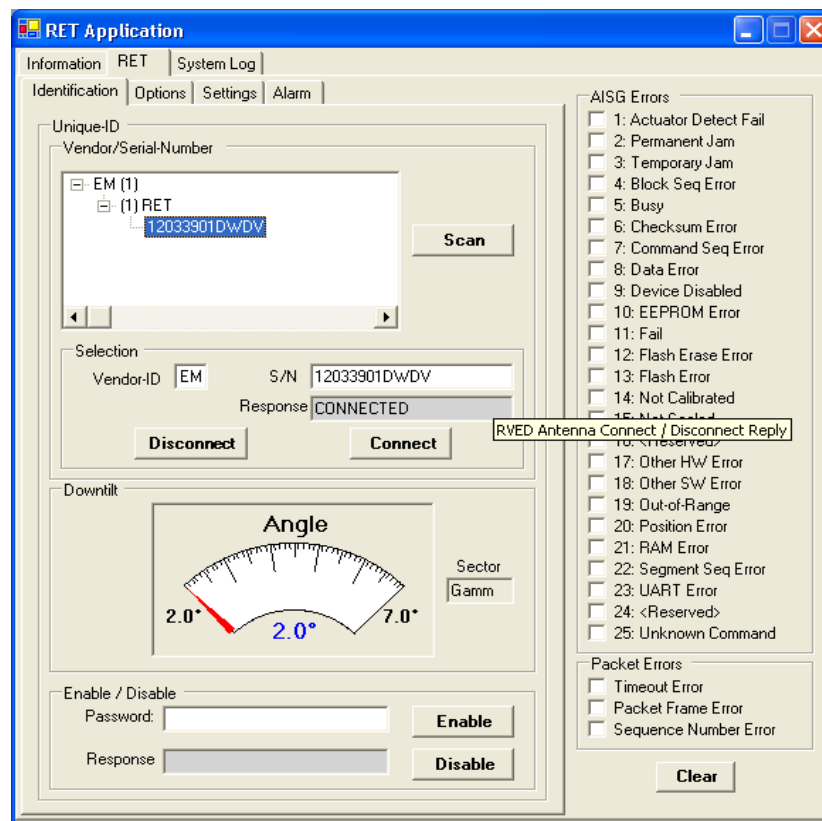

Figure 1. RET Device Scan Results.
9. Click on the **Scan** button (located under the RET/Identification tab) to search for all antennas connected to the RET system. When the scan is complete, all the antenna actuators will be listed by their serial numbers (Figure 1).